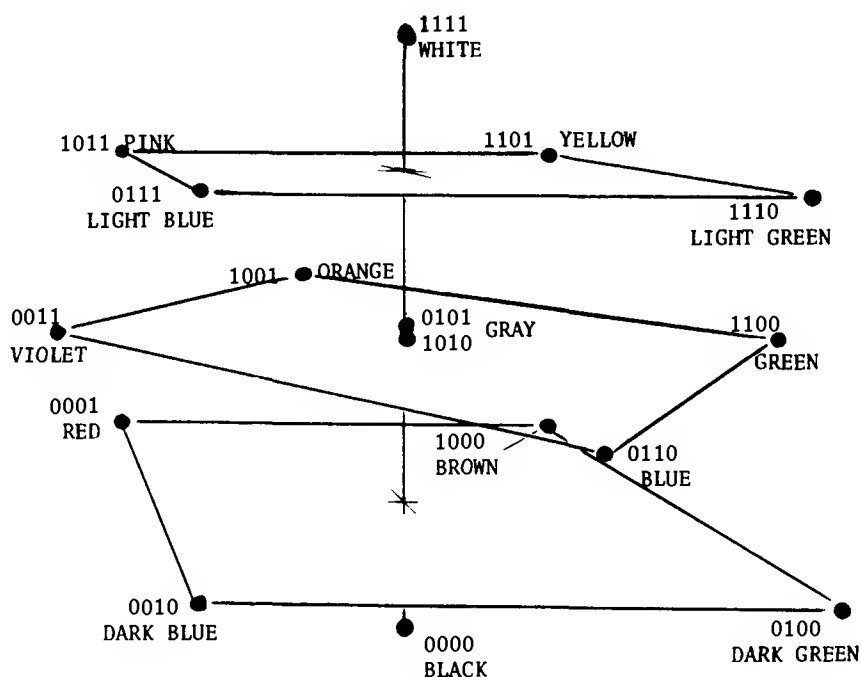

Figure 2.
2. A table of color numbers was made (DIM(16) in the program) so that color numbers near each other would correspond to colors that are near each other. The choice given in the program satisfies the following restrictions:
- Adjacent numbers are from adjacent planes in Figure 2.